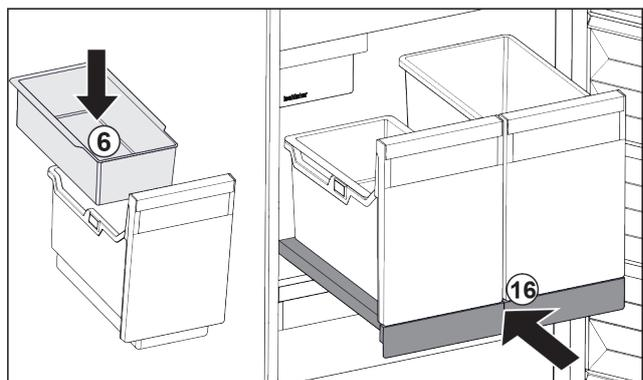

Fig. 91
- ▶ Insert hang-on tray Fig. 91 (6) for ice cubes.
- ▶ Slide in the pull-out board with (IceTower) container. *Fig. 91 (16)*